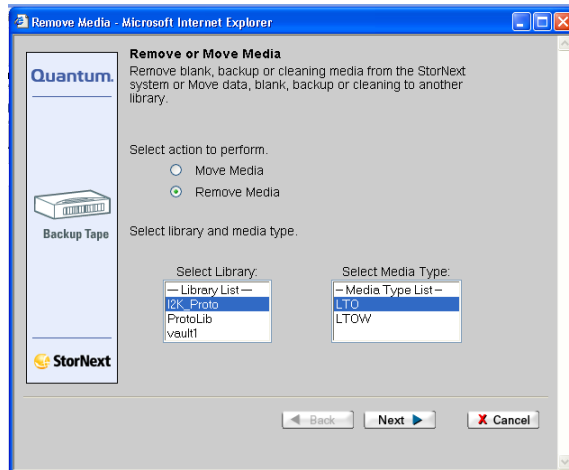

Figure 14.5-6. Remove or Move Media Page
- 2 The **Remove Media** or **Move Media** screen will appear (Figure 14.5-6). Select the **Remove Media** button.